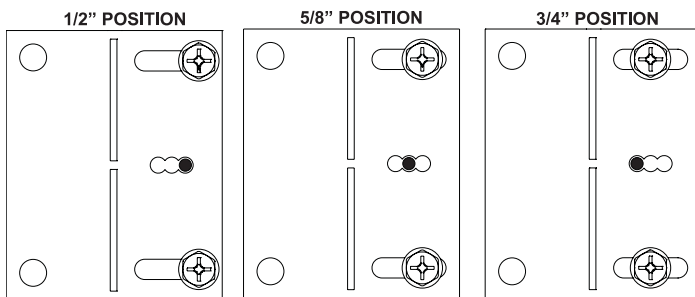

Figure 27
6. Measure from face of fireplace to face of drywall strip to determine final depth and adjust nailing flanges as shown in **Figure 27.**